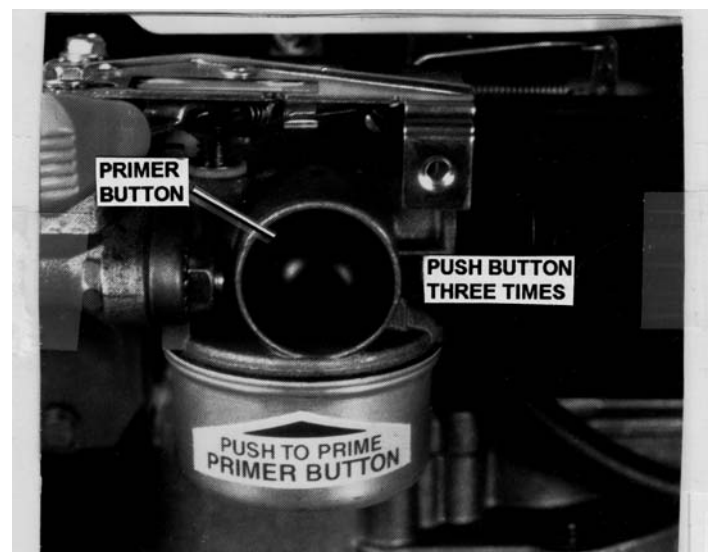

FIGURE 8
2. Push in the primer button, which is located on the left side of the engine, three (3) times. Wait about two (2) seconds between each push. In cold weather push five (5) times. See Figure 8.